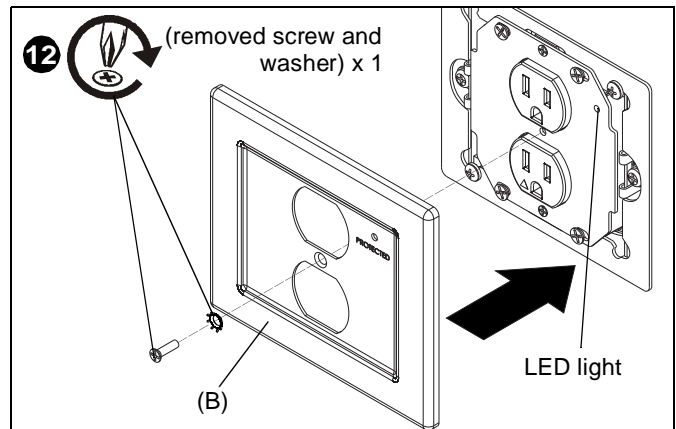

Figure 8
- Install faceplate (B) onto EGX-SF2 using one Phillips flat head screw and locking washer removed in Step 11. (See Figure 8)
**NOTE:** Make sure LED light on outlet box lines up with hole location on faceplate (B). (See Figure 8)